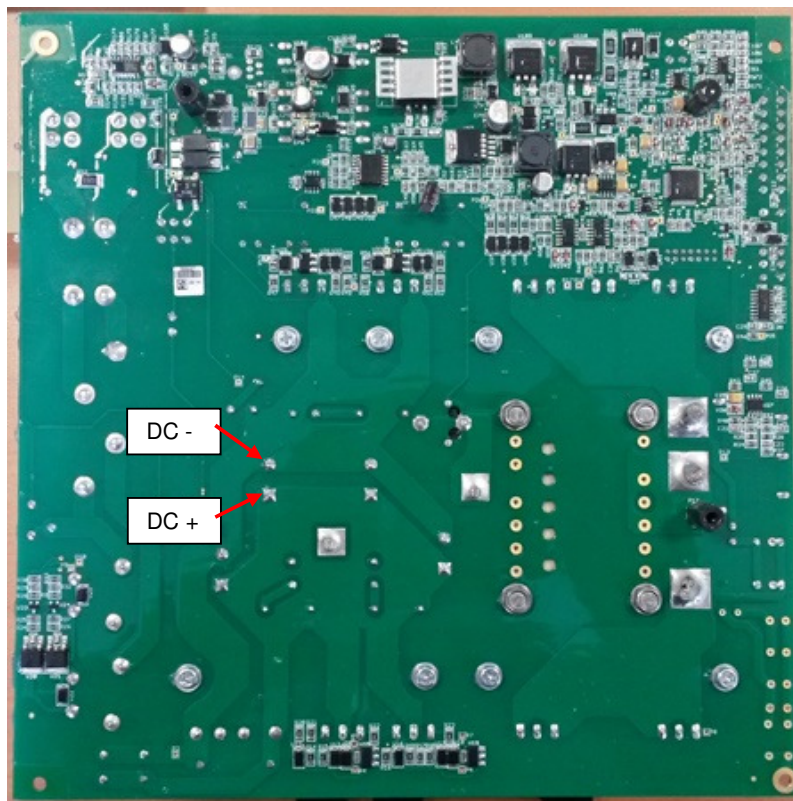

Figure 1
6. Once the Main Board has been removed connect your multi-meter positive probe to **DC+** point and your negative probe to **DC-** and check the voltage across filter capacitors. **See Figure 1**
9. Use electrically insulate gloves and insulated pliers. Hold the body of the resistor and connect the resistor leads across the two points **DC+** and **DC-**. **See Figure 1**. Hold the resistor in place for 10 seconds. DO NOT TOUCH CAPACITOR TERMINALS WITH YOUR BARE HANDS.